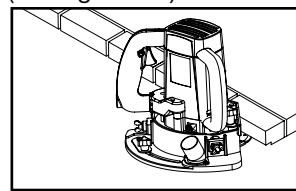

Fig. 12 - Undercutting masonry
2. A special blade is available for undercutting masonry, such as around fireplaces. (See figure 12.)